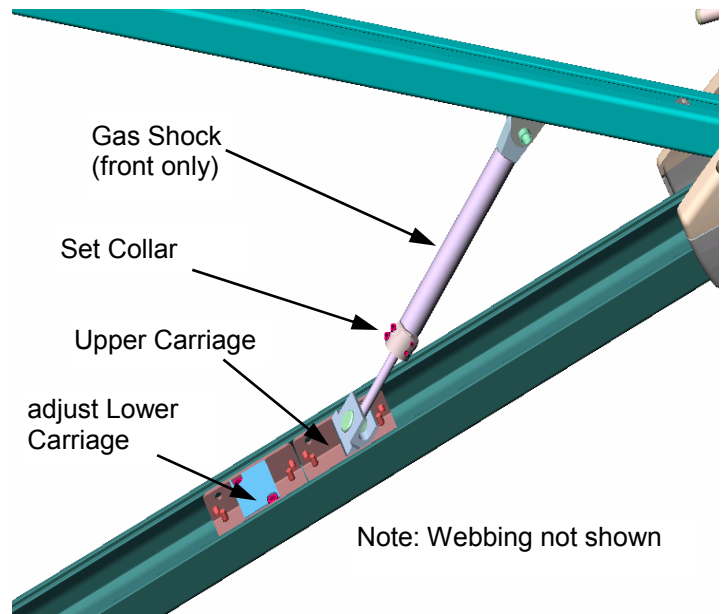

figure 11
(2) If the motor runs in the reverse direction, switch the position of the motor wire terminals on the back of the switch.
(3) The Power Control Switch panel may now be mounted in place.
C. Have available the 9/64" hex wrench provided. **Retract the awning until the roller assembly makes one complete turn.** While holding on to the Lower Carriage on the motorized arm assembly, cut and remove the cable tie attaching the Upper Carriage and Lower Carriage together. Move the Lower Carriage up until it touches the Upper Carriage (see figure 11). Tighten the clamping screws on the Lower Carriage with the 9/64 hex wrench. Repeat this procedure on the non-motorized arm assembly.